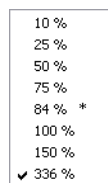

Figure 164: Zoom popup menu
- Right-click on the zoom field of the status line. A popup-menu (see fig. 164) listing possible zoom values for selection appears. A tick marks the current value. The value, which allows the whole model to be displayed in the modelling window, is marked by an asterisk.